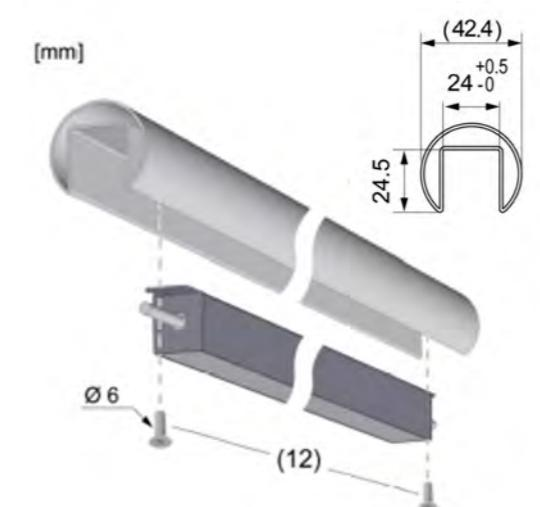

Figure 3: Mounting the luminaire
-  In the mounting base material (e.g. handrail), prepare a groove according to drawing (Figure 3).
- Fasten light inserts with stainless steel screws (12) in the groove (Figure 3).